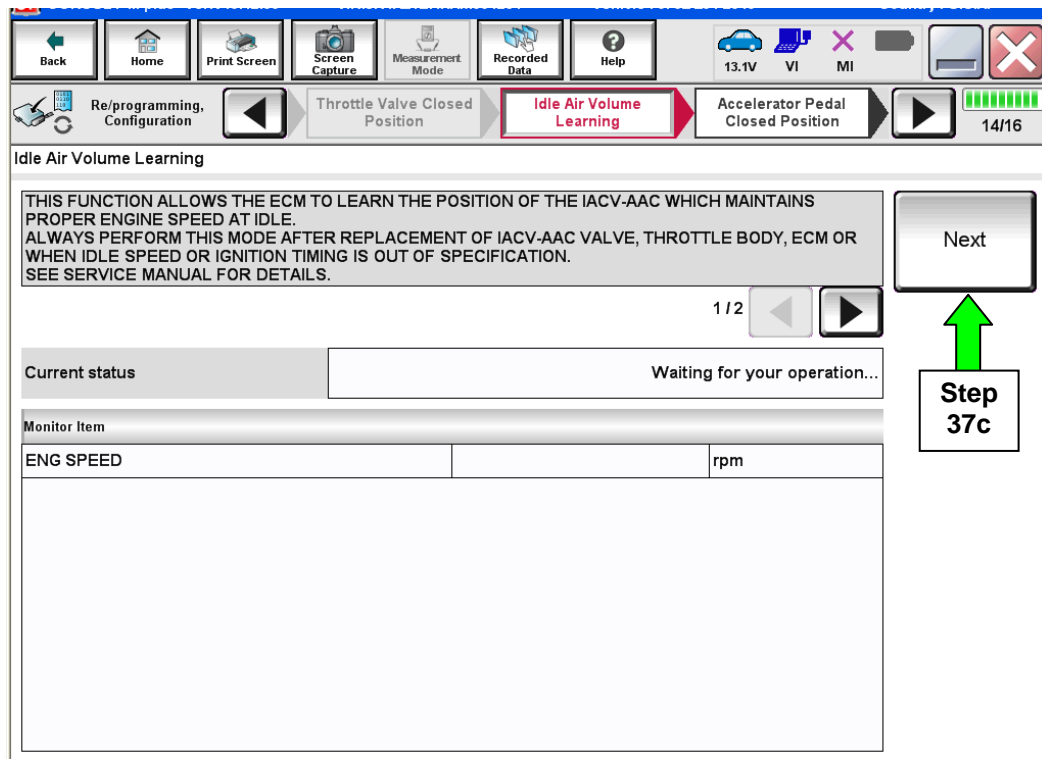

Figure 27
- By selecting **Yes**, this will take you back to the screen in Figure 27, page 21. Restart the IAVL procedure (page 21, step 37c).